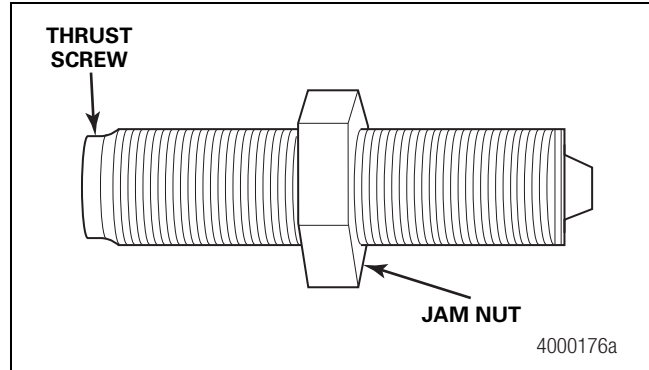

Figure 5.24
- Install the jam nut into the middle of the thrust screw. Figure 5.24.